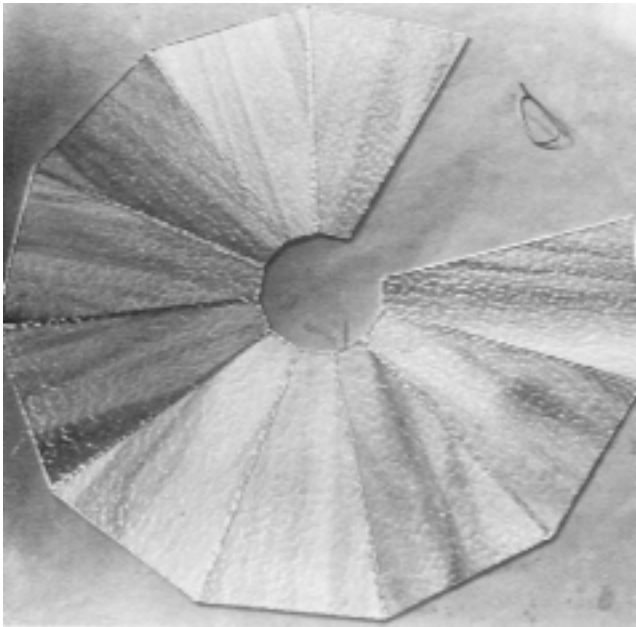

Fig 10.3
5. Lay out all A panels in an incomplete circle (fig 10.3) with the side that will be inside the lamp facing up (normally the textured side). Flux and lightly tack the pieces together in the corners. Do not use too much solder as it will only rip the foil when the whole layer is bent up into shape. A surprisingly small amount will do it as long as it has a good bond.